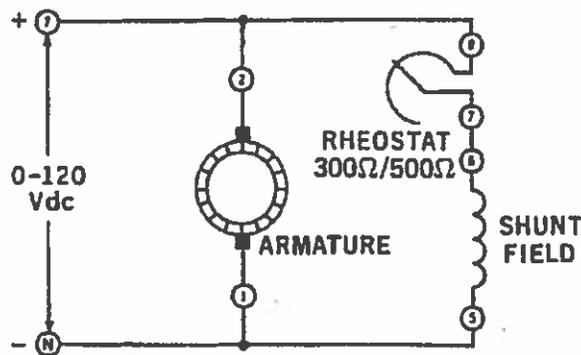

Figure 12-4.
12. Connect the circuit shown in Figure 12-4. Notice that the rheostat is in series with the shunt field, and that this combination is in parallel with the armature, across the input voltage.
- 16. Interchange the connection leads to the power supply. Your circuit should be the same as the one shown in Figure 12-4. Now reverse the connections to the armature only.